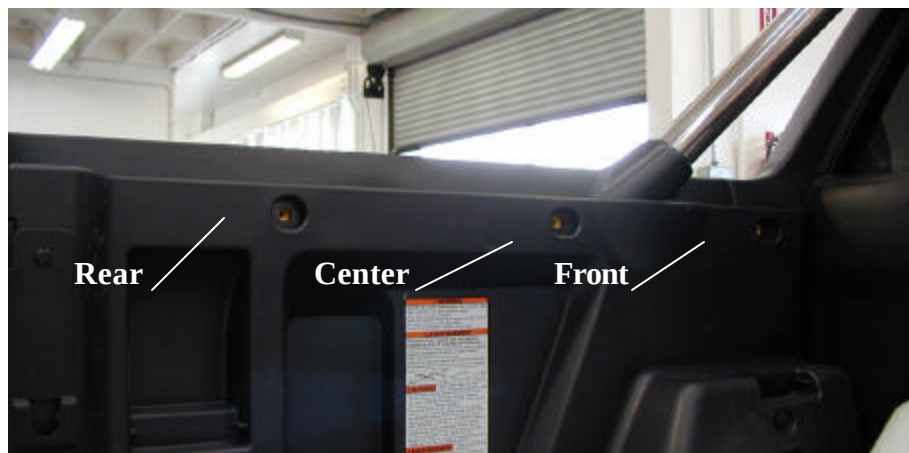

Figure 4.
1. Remove the (six) top screws that hold the plastic bed liner. There are three on each side. **See figure 4.**